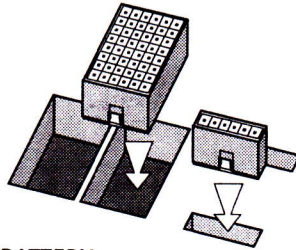

FIG. 3
2. Now push the assembled housing into the slots on the front of the console. (Figure 3)